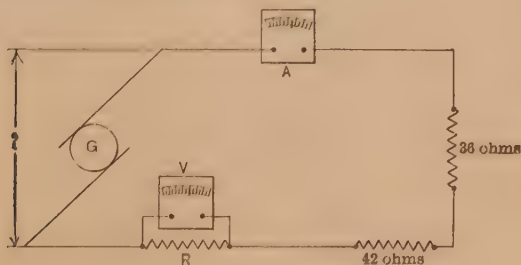

FIG. 39.
**Problem 16.** Ammeter ( $A$ ), Fig. 39, reads 2.4 amp.; voltmeter ( $V$ ) reads 41 volts.